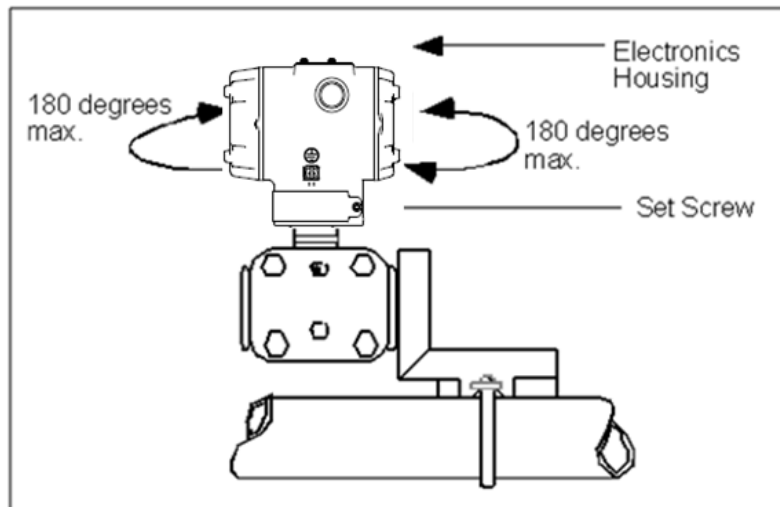

Figure 8 – Rotating the Electronics Housing
3. Loosen the set screw on the outside neck of the Transmitter one (1) full turn.
4. Rotate the Electronics housing a maximum of 180° left or right from the center to the position you require, and tighten the set screw using a 4mm metric socket head wrench. See the following example and Figure 8.